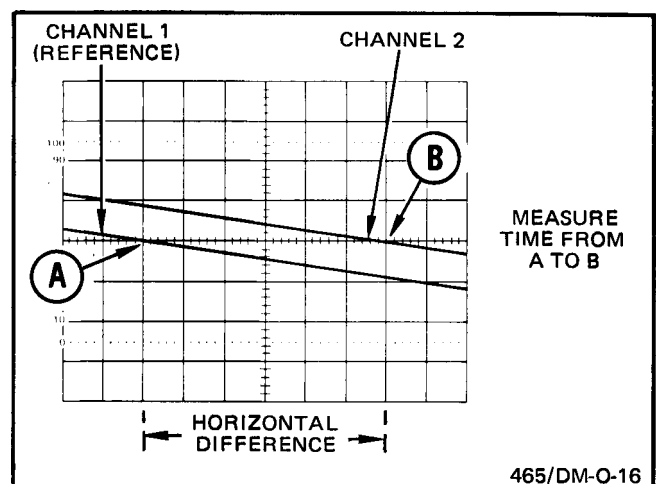

Fig. 2-8. High-resolution phase difference.
4. Slightly readjust the horizontal position control to move the measurement points within the graticule area (see Fig. 2-8).
The horizontal distance measured is 6 divisions (see Fig. 2-8). The magnified sweep rate is  $4.5^\circ/\text{division}$ .